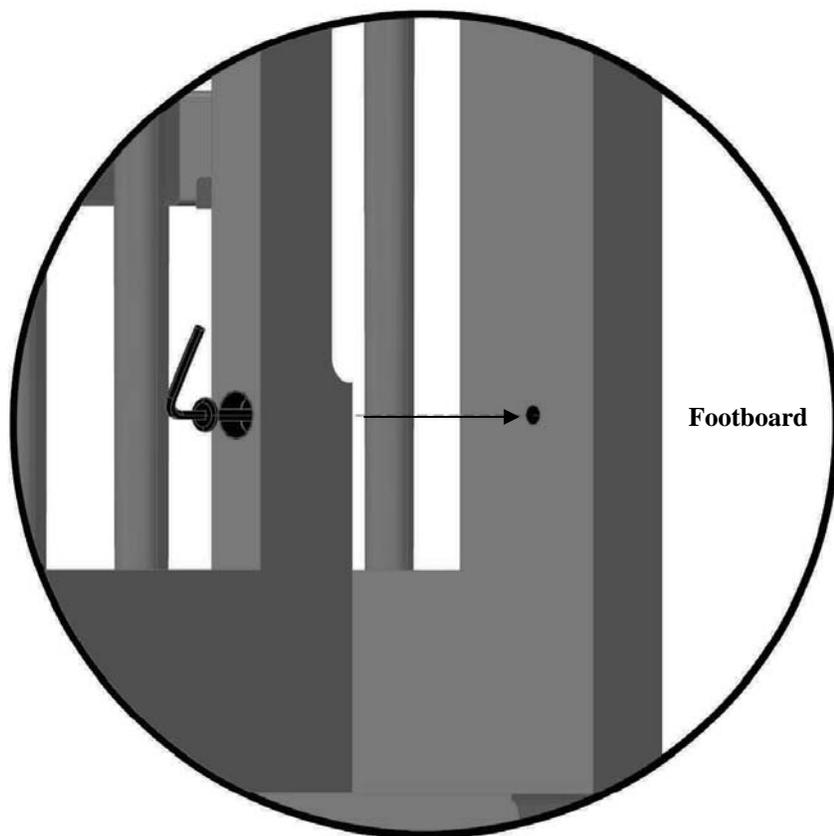

Figure 9.
- Using (4) $2 \frac{3}{8}$ " connector bolts, loosely attach the footboard as indicated in Fig 9.